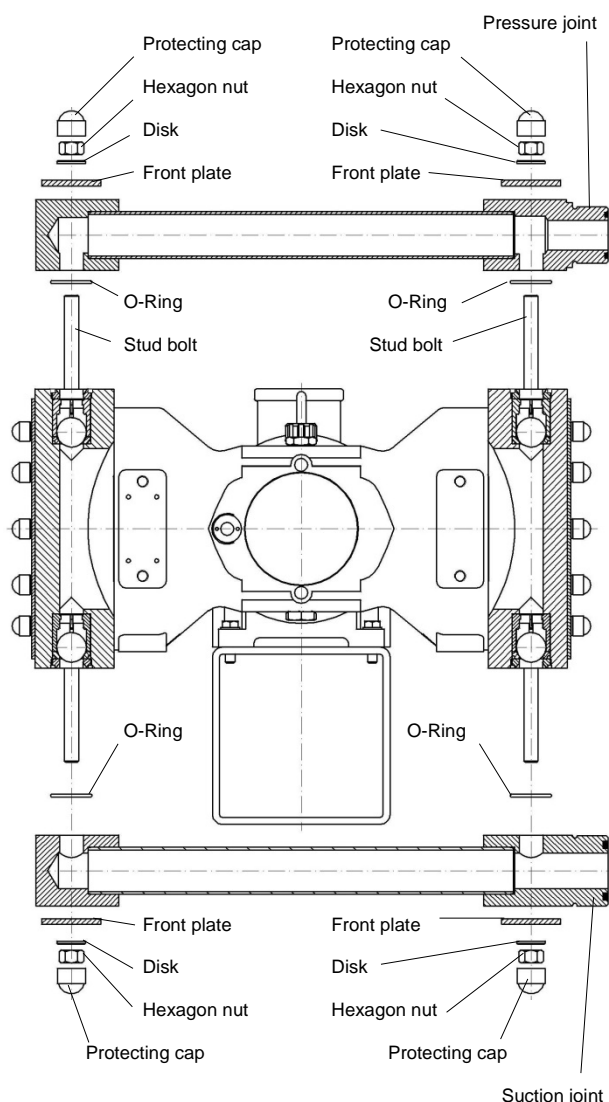

Fig. 32
- Mount suction and pressure joint. Use new o-rings. (see Fig. 32)
- Disassemble the suction and pressure joint (see Chapter 10.4.2, Fig.32)